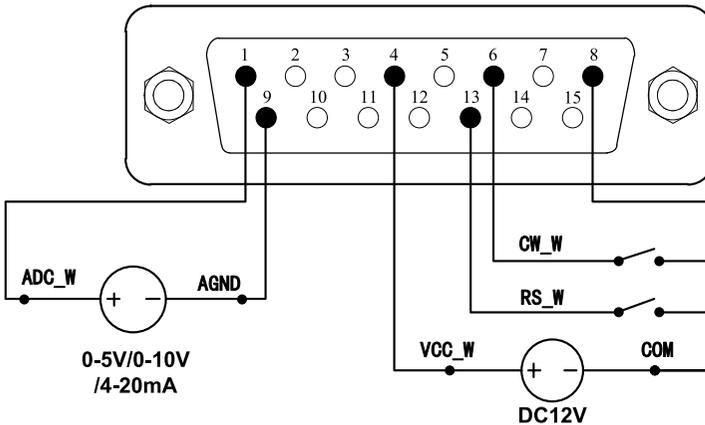
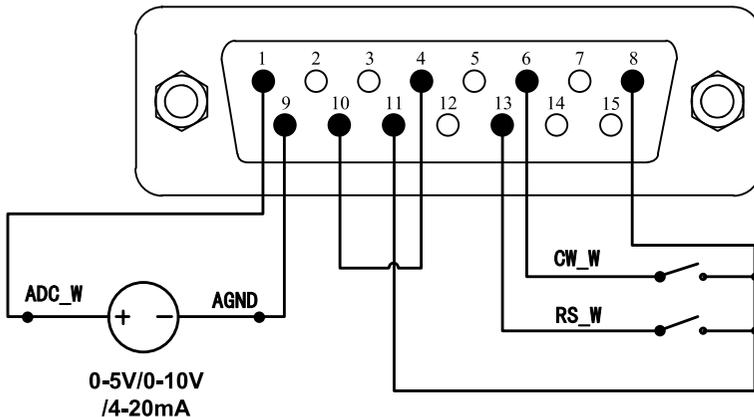

Figure 50: Wiring diagram of external control mode connecting external DC12V power supply
Figure 51: DB15 Wiring with Internal 12V DC Power Source
- ◆ In the pump power off state, connect the circuit according to figure 50 or figure 51, and connect the DB15 interface to the back interface of the pump.